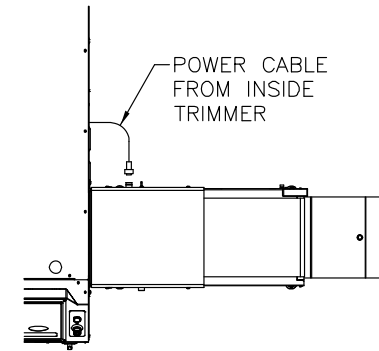

Figure 2-37. Power Cable Connection
3. Connect the power cable as shown in Figure 2-37.